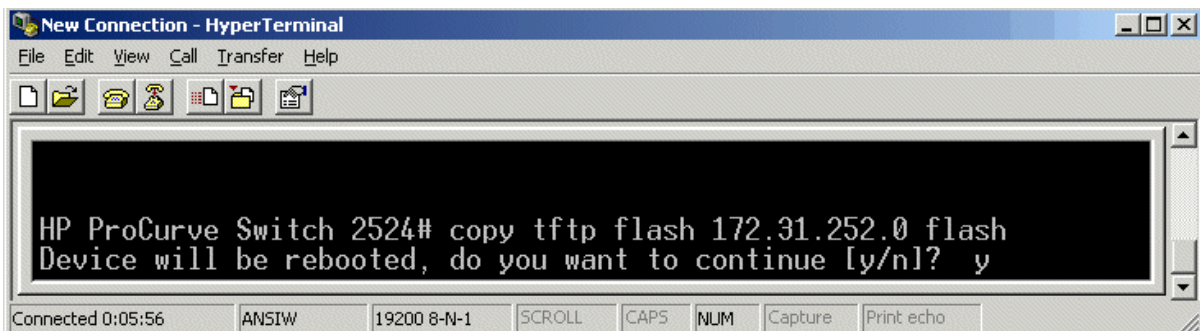

Figure 5-40 Copy tftp flash command
Step 14. Type **copy tftp flash hhh.hhh.hhh.hhh flash** where **hhh.hhh.hhh.hhh** is the IP Address of the **Host** switch. See Figure 5-40.